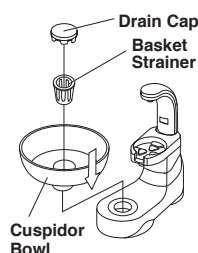

Fig.5-19 Cuspidor Bowl
(4) Cuspidor Bowl, Drain Cap and Basket Strainer (Fig.5-19)